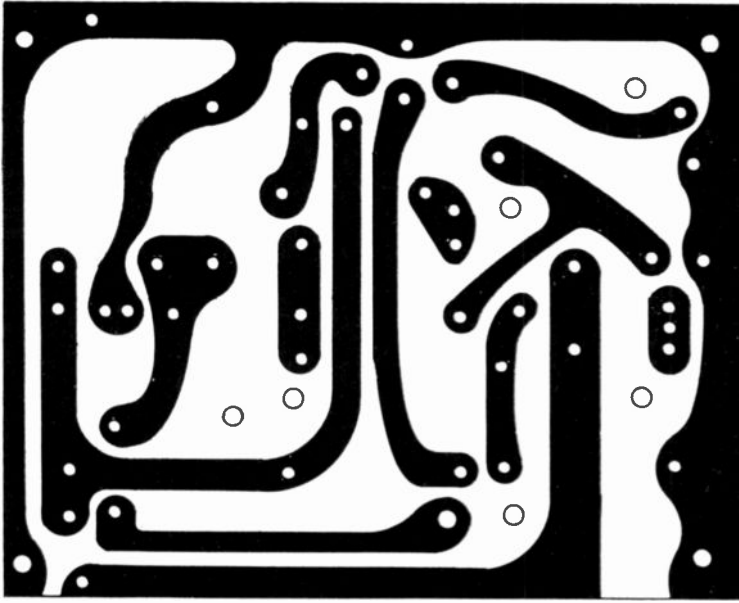

Fig. 3. If you decide to make your own printed circuit board, use this full-size drawing as a guide to proper etching of foil side of board.
**Construction.** The Responder can be built into any 8" x 6" x 3" enclosure. Parts placement is not critical, but perhaps the most suitable layout for the small parts is on a printed circuit board or plain perforated phenolic board. If you want to make your own printed circuit board, follow the actual-size drawing shown in Fig. 3. You can buy one already etched and drilled for \$2 post-paid (see Parts List).